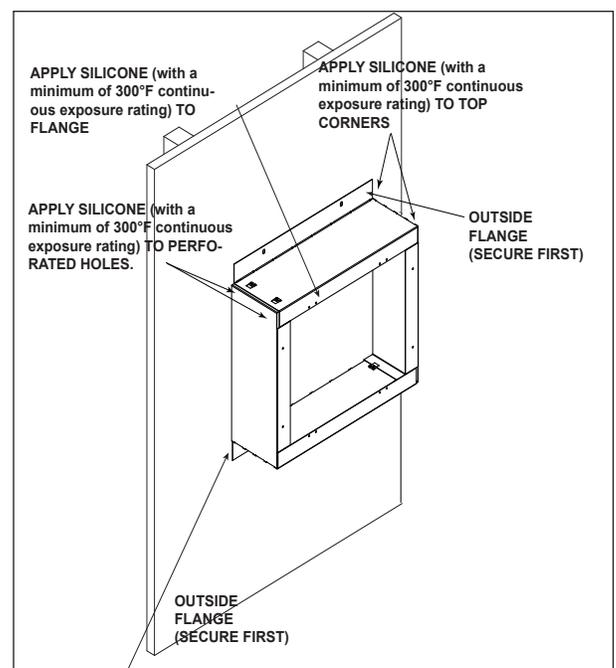

Figure 3.21 PLVP-BEK Attached to Wall
13. Place assembled box over the framed opening in the wall with outside flanges oriented vertically and held tight to the building exterior. See Figure 3.21.
14. Drive two of the supplied screws through opposite ends of the two outer flanges. This will secure the PVLP-BEK extension box to the building and allow for squaring of the PVLP-BEK. See Figure 3.21.